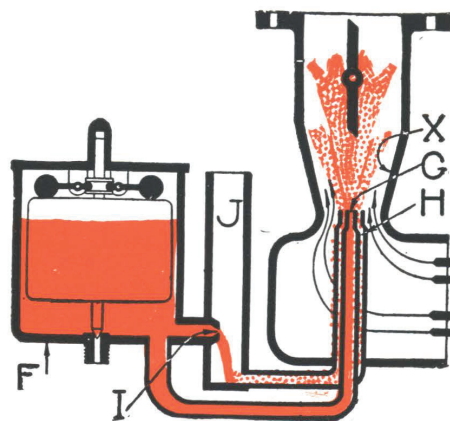

Fig. 3.
Look at Fig. 3. You will see Figs. 1 and 2 combined. In this view cap jet (H) surrounding main jet (G) forms what we call "the compound nozzle."
It empties into the well (J) (Fig. 3, page 1293) which is open to the atmosphere and accordingly is not affected by the suction.